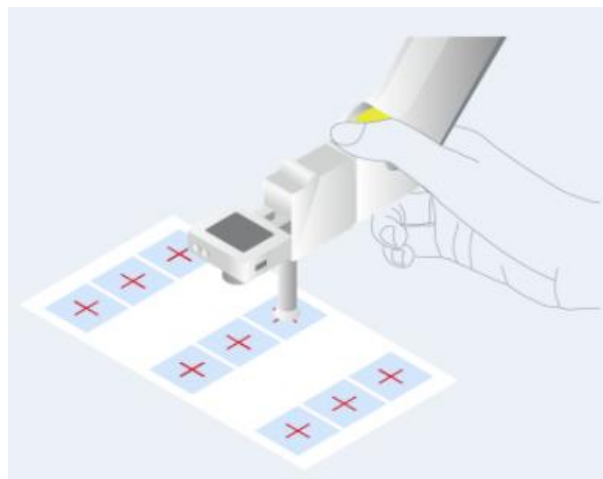

Figure 4.34 Align the suction cup center of Magician Lite with the cross center of QR code
Step 4 Move Magician Lite using the **Control Panel** on the calibration page of the arm camera to align the suction cup center of Magician Lite with the cross center of No. 1 QR code on the calibration board, as shown in Figure 4.34.